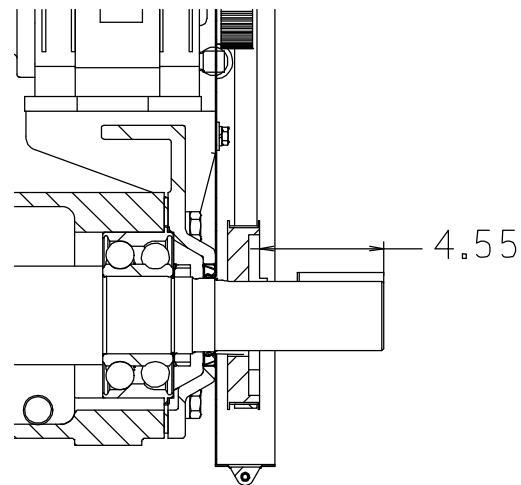

Figure 6. Drive Sprocket Positioning
keyway for the drive key (26, Figure 2). Install the bushing (29) and sprocket (28) on the shaft to the dimension shown in Figure 6.